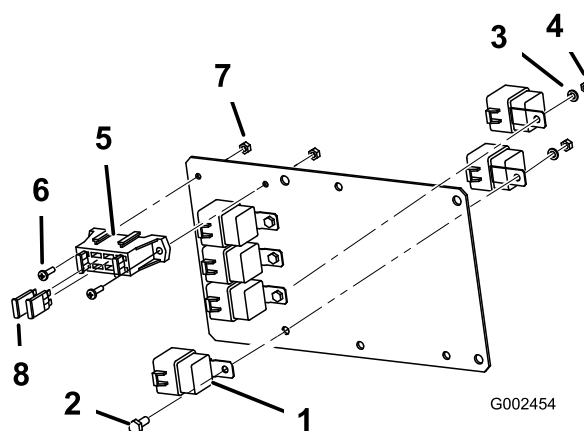

Figure 6
1. Secure 6 relays to the mount plate (Figure 6), using 4 bolts (1/4 x 5/8 inch), 4 lock washers (1/4 inch), and 4 nuts (1/4 inch). Four relays can be mounted to the front of the plate, while two relays have to mounted to the back of the plate. The two relays mounted to the back of the plate will share fasteners with the relay mounted to the front at the same hole location
2. Secure the fuse block end of the wiring harness to the mounting plate (Figure 6), using 2 screws (#10) and 2 nuts (#10).
4. Install two thermal breakers (30 Amp) into the open, middle slots in the fuse block on the ECU mounting plate (Figure 6).